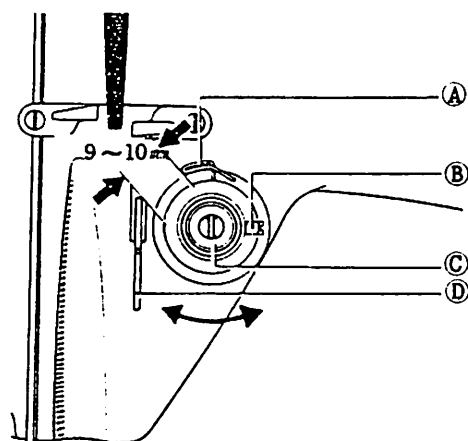

Fig. 9.23
9.17.3 Move the tension regulator bushing (B)*in the direction indicated by arrow in Fig. 9.23, and position it so that the opening of the tension discs (A) is within a range from 0.8mm to 1.0mm.